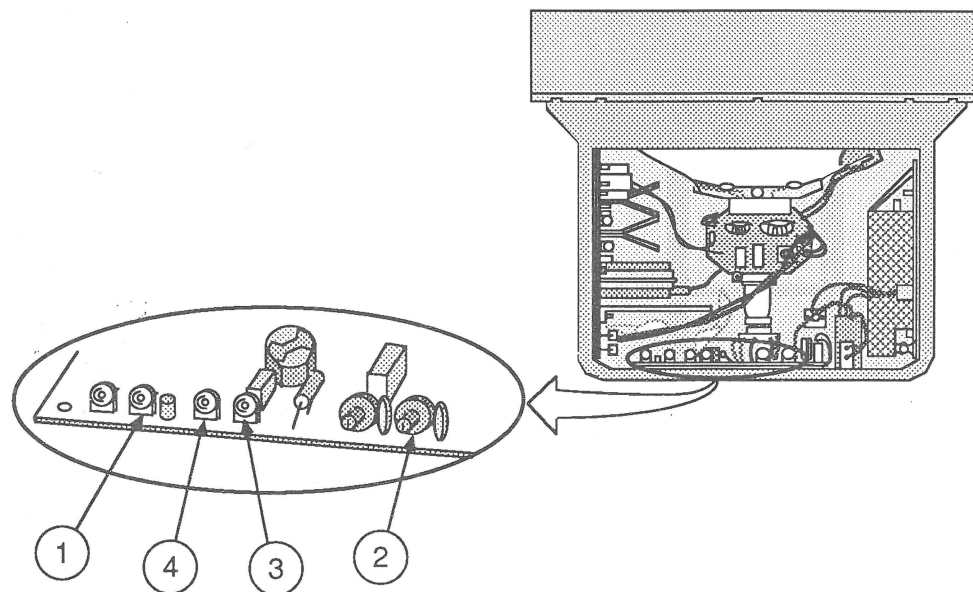

FIGURE 18
- a) Adjust the STATIC FOCUS control (Figure 18, #2) for the best focus in the box at the center of the screen.
- b) Adjust the HORIZONTAL FOCUS control (Figure 18, #3) for the best focus in the boxes at the left and right sides of the screen.
- c) Adjust the VERTICAL FOCUS control (Figure 18, #4) for the best focus in the boxes at the top and bottom center of the screen.